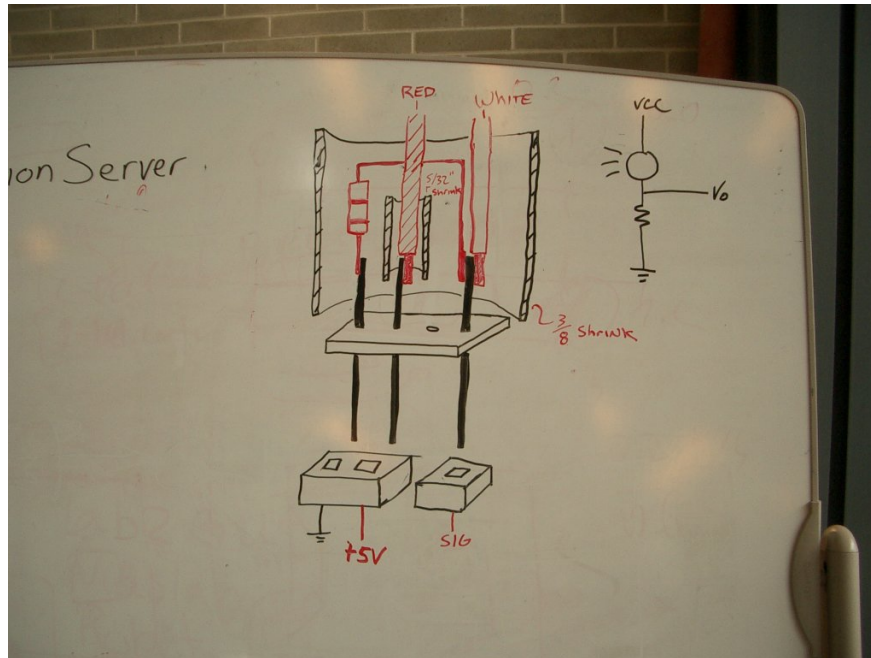

Figure 1: Wiring diagram of the light sensor.
1. Consult the wiring of the light sensor on the exemplar, and Figure 1. Write down the formula for the voltage divider which gives V_{out} in terms of $V_{in} = 5V$, the photocell resistance R_{photo} , and the resistor R_1 . If your photocell has a resistance of 180 Ohms in bright light and 200k Ohms in the shade, what is the voltage range of your light sensor as a function of R_1 ?